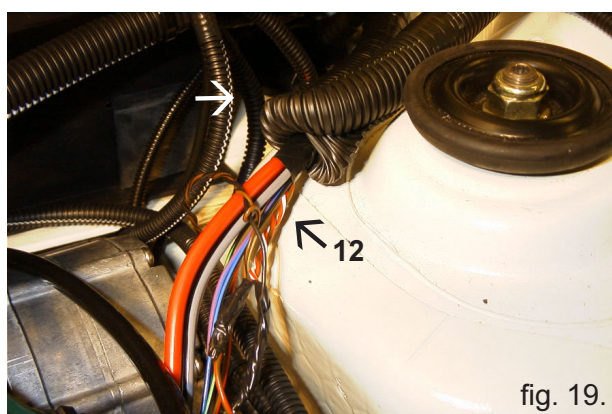

fig. 19.
12. Crankshaft signal. Connect the signal wires into the harness at the rear of the nearside spring turret. See fig 19. The green wire is connected to the brown/red and the brown/green to position 1 – white/red.